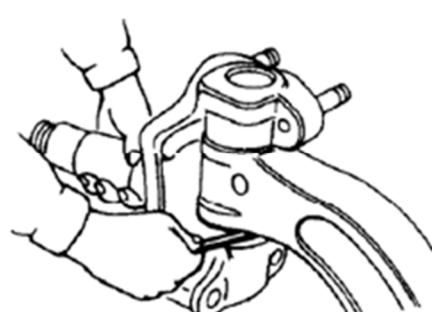

Figure 3-27.
- 3) Measuring the distance from the shunt articulation to the front axle, selecting the appropriate washer, ensuring the gap from 0.05-0.15mm (Figure 3-27).